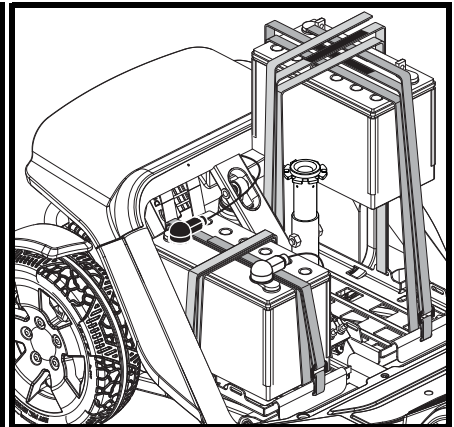

Figure 16B. Battery Installed
4. Place the battery into the battery well under both straps. **See figure 16B.** This may require two people.